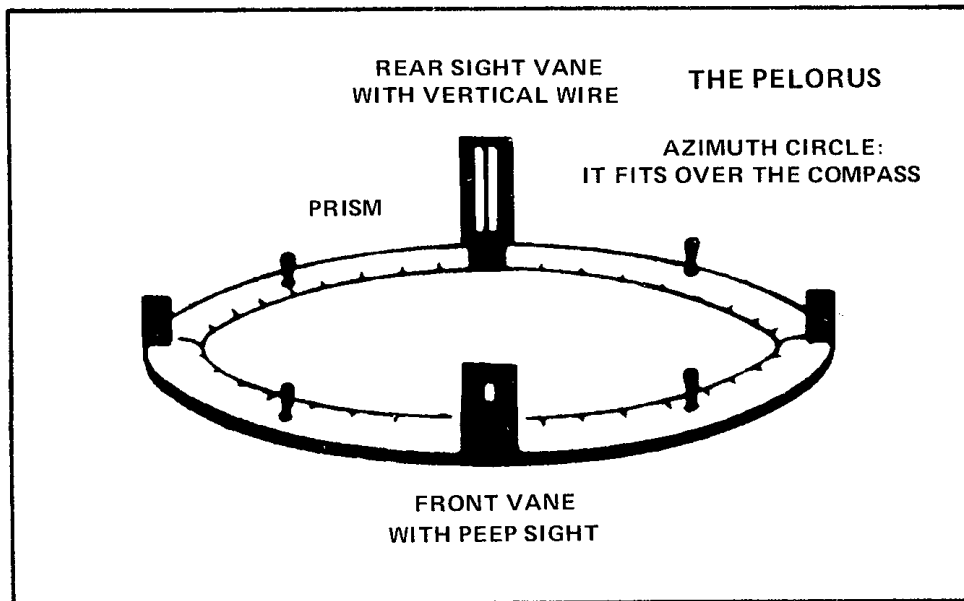

Figure 7-29 The Pelorus
96. **The Pelorus** — (See Figure 7-29.) Any boat-owner can afford a **pelorus**, which he can build if he cannot buy it. It is a portable device consisting of a **pair of sightings vanes** mounted over a **dummy compass card**. Both vanes and card can rotate independently. The pelorus is mounted, usually so it can readily be removed, in such a position as to permit easy all-round observation. In use, the pelorus card is set, against its lubber line (**its axis having been made parallel to the vessel's keel**), **to read the ship's compass heading** at the time of observation. Thus the pelorus is oriented to the compass card at the moment of sighting and **readings taken on the line of sight are the same as though they had been taken over the compass**. In effect the pelorus provides a means of transporting the ship's compass to a useful vantage point. Care must be taken that the pelorus's axis is properly established parallel to the ship's axis, that the vessel is steady on course when the observation is made and that the course is properly set on the pelorus card. If she is yawing the helmsman calls "on" or "mark" only when she is in fact on the course that has been set.